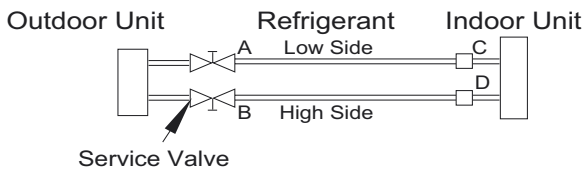

Fig. 23 — Service Valve
1. Completely tighten flare nuts A, B, C, D, connect the manifold gage charge hose to a charge port of the low side service valve (see Fig. 23).